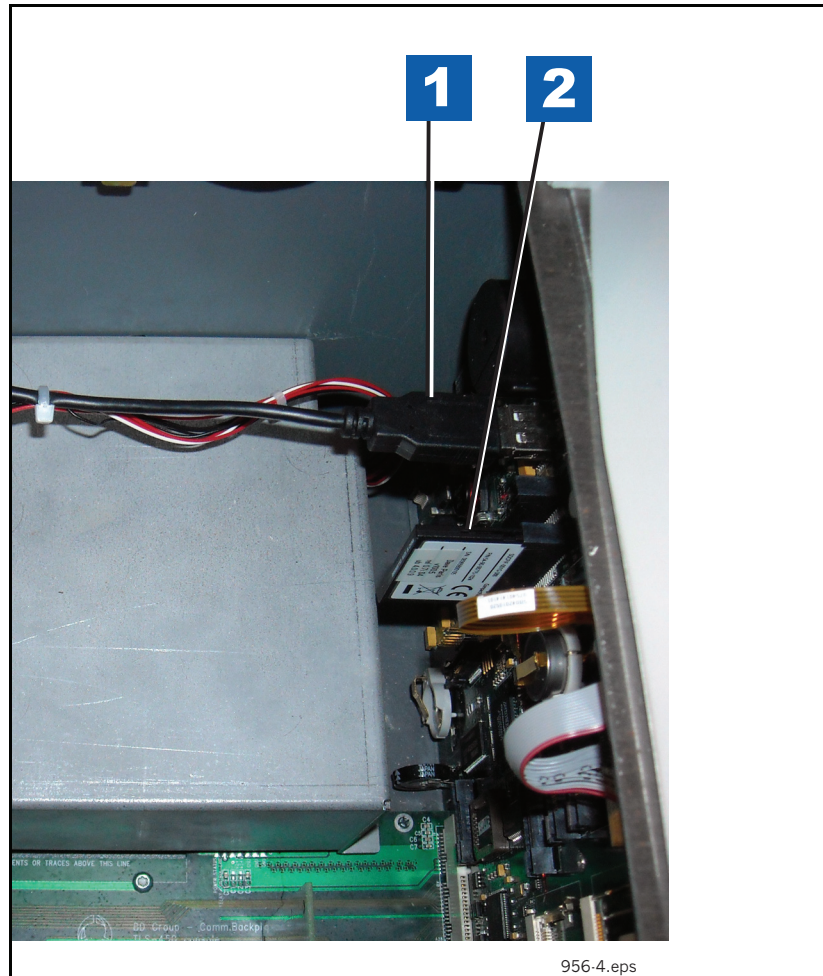

Figure 5. Remove USB cable and CF card
| Figure 5. | Remove USB cable and CF card | 8 |
3. Disconnect the USB connector and remove the CF card from the CPU board (see Figure 5).
Legend for numbered boxes in Figure 5